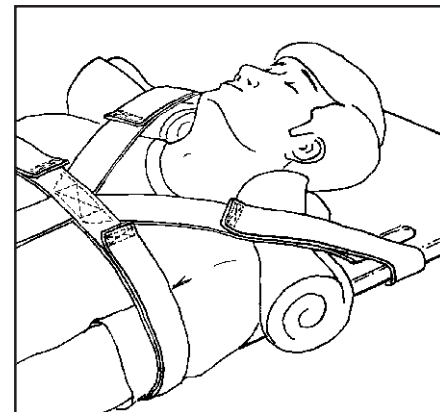

Figure 8 - Filling Gaps Between Patient's Shoulders and V-Straps
4. Snug the V-strap across the patient's shoulders. As needed, place padding (rolled blankets, towels, etc.) to fill gaps between the shoulders and straps (Figure 8).